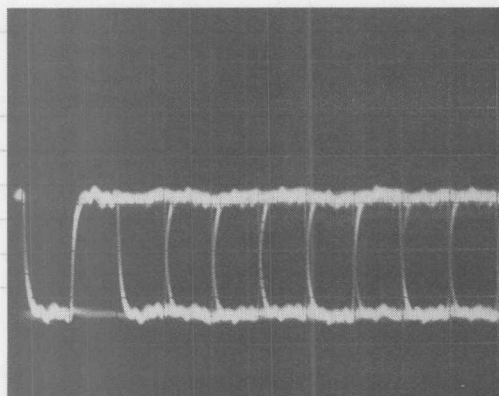
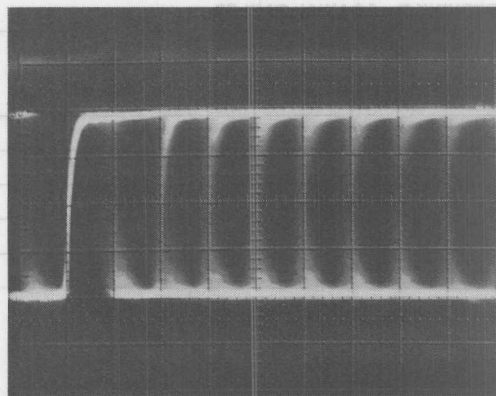

FIGURE 11a. 50 MHz Signal at Transmitter Output
FIGURE 11b. 50 MHz Signal at Receiver Output
*Figures 10a and 10b* show the 50 MHz signal at the receiver input. The peak-to-peak jitter from all sources is about 40% maximum. *Figure 11a* shows the 50 MHz signal at the line input (differential mode) and *Figure 11b* shows the recovered 50 MHz signal at the receiver output. The effective jitter can be seen in the recovered signal. It is important to note that the F100250 exhibits no threshold shift which would contribute to bias distortion.